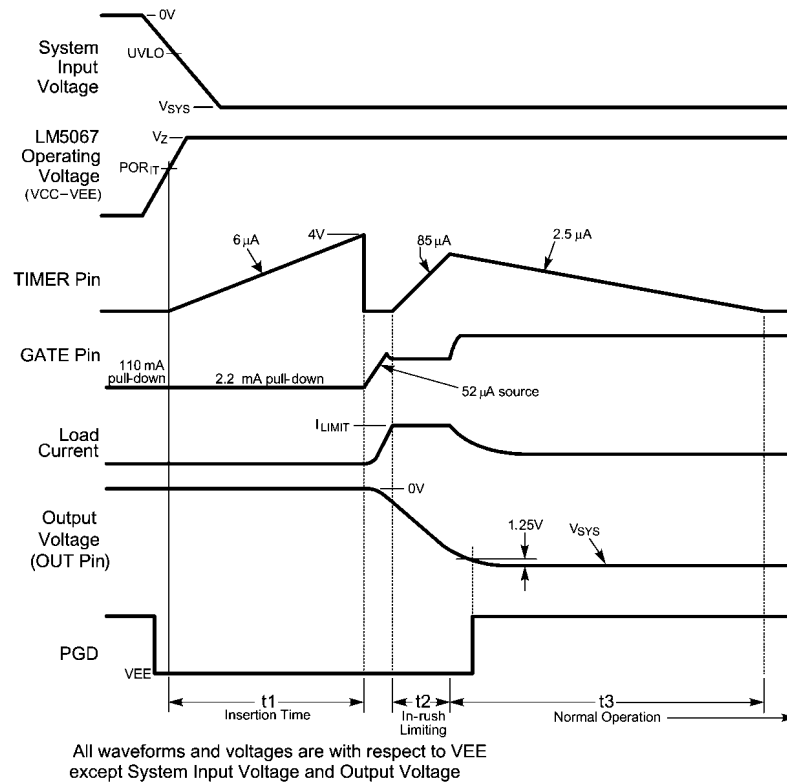

FIGURE 3. Power Up Sequence (Current Limit only)
The GATE pin switches on Q1 when  $V_{SYS}$  exceeds the UVLO threshold (UVLO pin  $> 2.5V$  above VEE). If  $V_{SYS}$  exceeds the UVLO threshold at the end of the insertion time, Q1 is switched on at that time. The GATE pin sources 52  $\mu$ A to charge Q1's gate capacitance. The maximum gate-to-source voltage of Q1 is limited by the LM5067's operating voltage ( $V_Z$ ) to approximately 13V. During power up, as the voltage at the OUT pin increases in magnitude with respect to Ground, the LM5067 monitors Q1's drain current and power dissipation. In-rush current limiting and/or power limiting circuits actively control the current delivered to the load. During the in-rush limiting interval ( $t_2$  in Figure 3) an internal current source charges  $C_T$  at the TIMER pin. When the load current reduces from the limiting value to a value determined by the load the in-rush limiting interval is complete and  $C_T$  is discharged. The PGD pin switches high when the voltage at the OUT pin reaches to within 1.25V of the voltage at the SENSE pin.
The external N-channel MOSFET is turned on when the GATE pin sources 52  $\mu$ A to enhance the gate. During normal operation (t3 in Figure 3) Q1's gate is held charged to approximately 13V above VEE, typically within 20 mV of the voltage at VCC. If the maximum  $V_{GS}$  rating of Q1 is less than 13V, a lower voltage external zener diode must be added between the GATE and SENSE pins. The external zener diode must have a forward current rating of at least 110 mA.
During the insertion time (t1 in Figure 3) the GATE pin is held low by a 2.2 mA pull-down current. This maintains Q1 in the off-state until the end of t1, regardless of the voltage at VCC and UVLO.
Following the insertion time, during t2 in Figure 3, the gate voltage of Q1 is modulated to keep the current or Q1's power dissipation level from exceeding the programmed levels. Current limiting and power limiting are considered fault conditions, during which the voltage on the TIMER pin capacitor increases. If the current and power limiting cease before the TIMER pin reaches 4V the TIMER pin capacitor is discharged, and the circuit enters normal operation. See the Fault Timer & Restart paragraph for details on the fault timer.
**A) Insertion Delay** - Upon applying the system voltage ( $V_{SYS}$ ) to the circuit, the external MOSFET (Q1) is held off during the insertion time ( $t_1$  in Figure 3) to allow ringing and transients at  $V_{SYS}$  to settle. Since each backplane's response to a circuit card plug-in is unique, the worst case settling time must be determined for each application. The insertion time starts when the operating voltage ( $V_{CC}$ - $V_{EE}$ ) reaches the  $POR_{IT}$  threshold, at which time the internal  $6 \mu\text{A}$  current source charges  $C_T$  from 0V to 4.0V. The required capacitor value is calculated from: